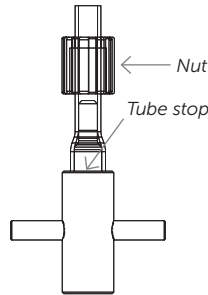

Figure 2.
2. Remove the PFA tubing from the heat source. Immediately push the flaring mandrel (part number 213-163) into the tubing until the end of the tubing reaches the tube stop (see Figure 2).